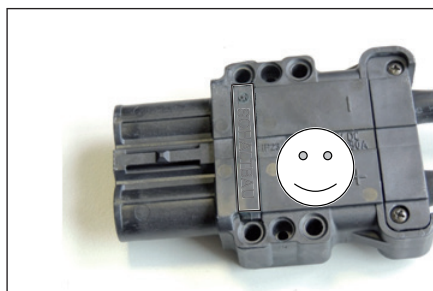

Fig. 49: Slider existent in the plug connection. O.k.!
- ▶ Is the slider existent in the device and charging connectors (refer to Fig. 49 and Fig. 50).